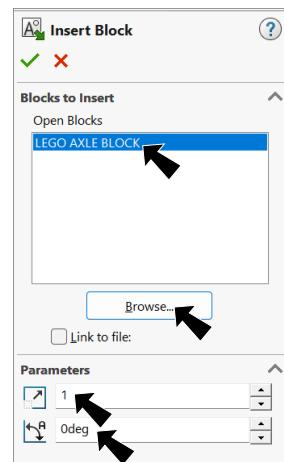

Fig. 49
Step 4. In Insert Block Property Manager, click Browse, Fig. 49